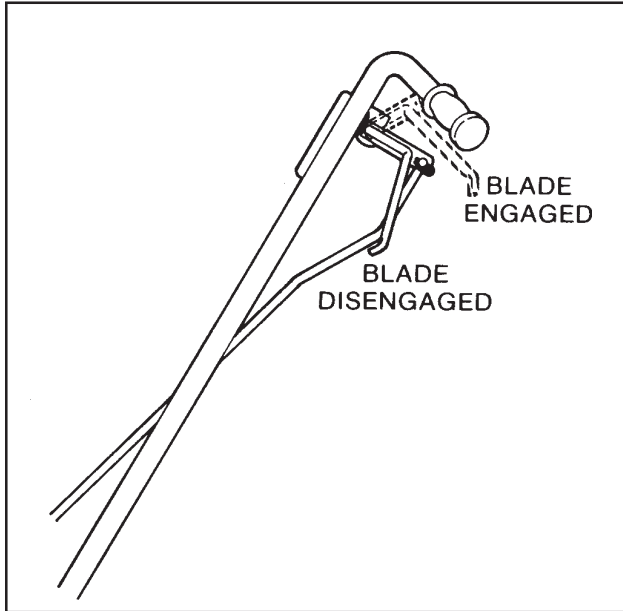

Figure 7, Engaging The Blade
2. Pull the operator presence safety levers up to engage the blade (See Figure 7) and carefully raise the front wheel until the blade is at the desired cutting depth. When the height adjustment lever is all the way forward, the blade is 1/2 inch from the ground. The blade is lowered approximately 1/4 inch for each notch in the height adjustment index.